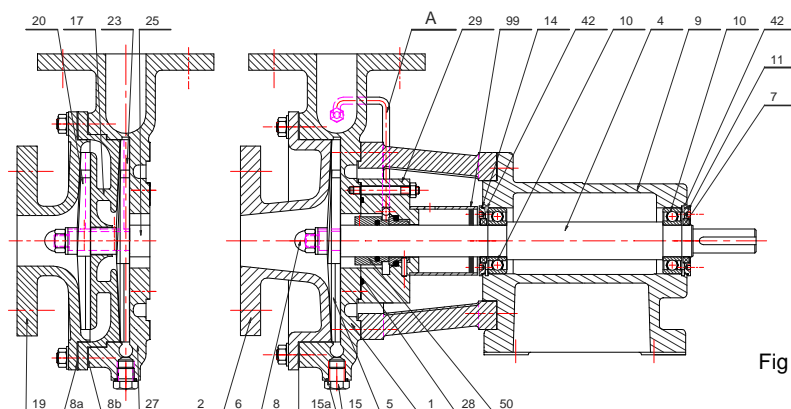

Fig 3
- The 109-212-215-315 pumps can be mounted either in single cell or multicell, according to fig 3